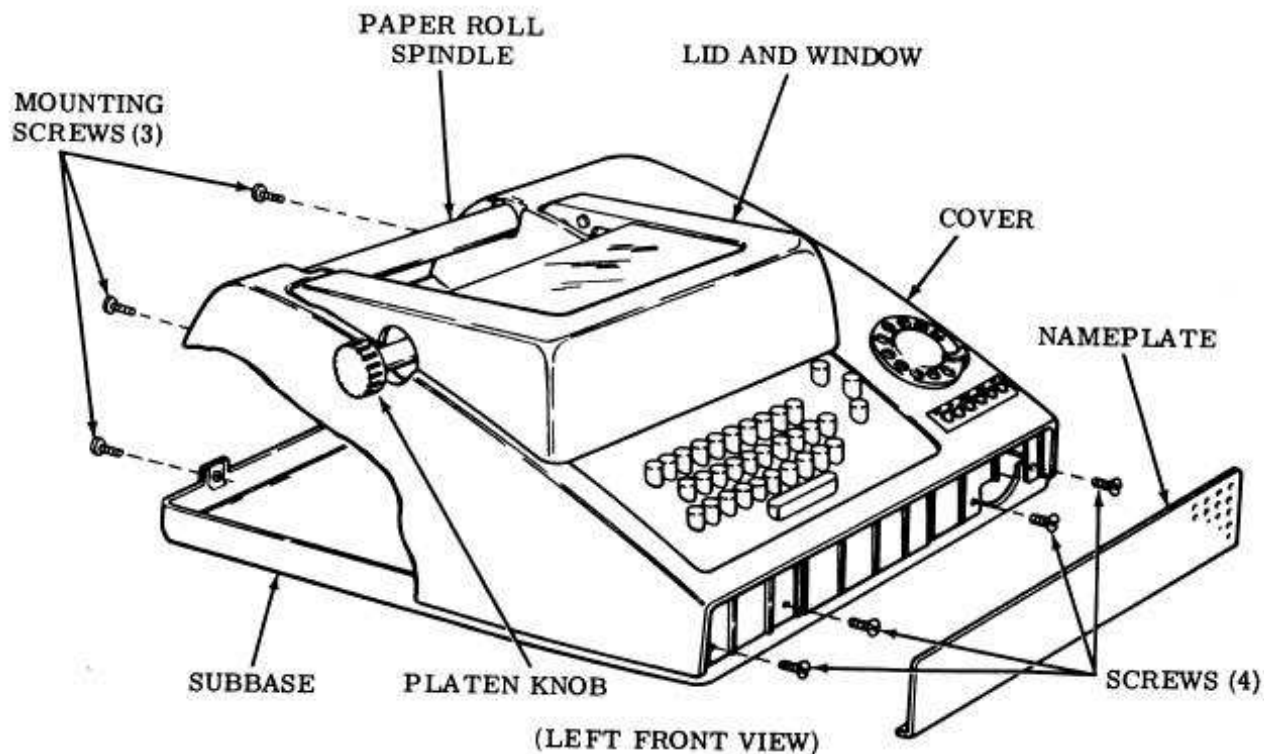

Figure 1 - Cover Mounting
1.07 Remove the bezel, if used, from the call control unit by removing two mounting screws. Remove the volume control knob, if used, or the power switch rotary knob, if used, by pulling frontward. Remove the nameplate by pulling it down and out (Figure 1). This will